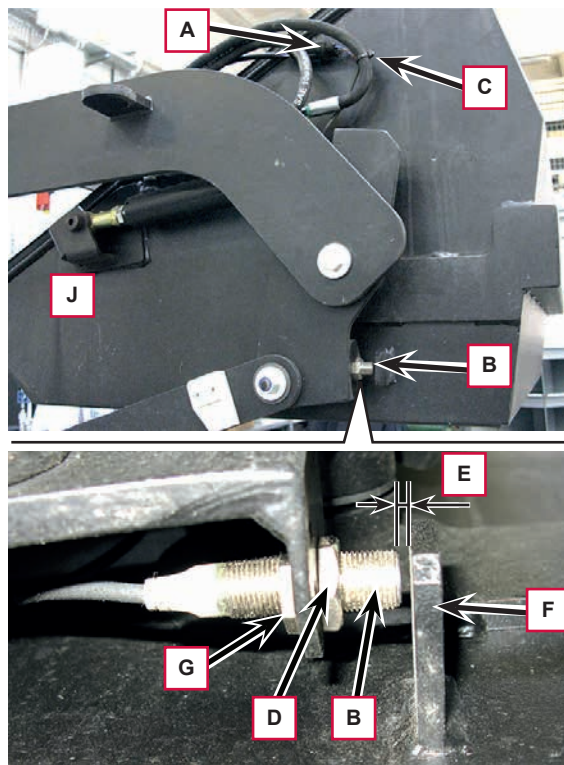

Figure 9
6. On the left-hand side of the hopper, disconnect the electrical connection (A, Figure 9) of the hopper rotated sensor (B).
7. Cut the various clamps (C) for the sensor wiring (B).
8. Unscrew the nut (D) and remove the sensor (B) with wiring.